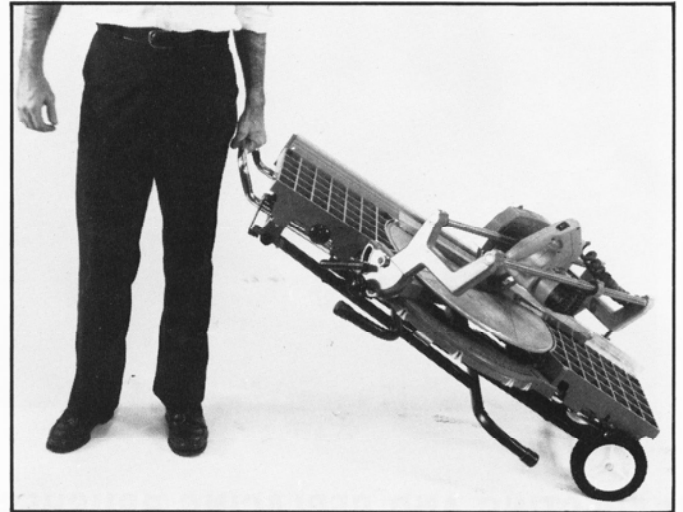

Fig. 71
6. Fig. 71, illustrates saw folded and ready for transportation.